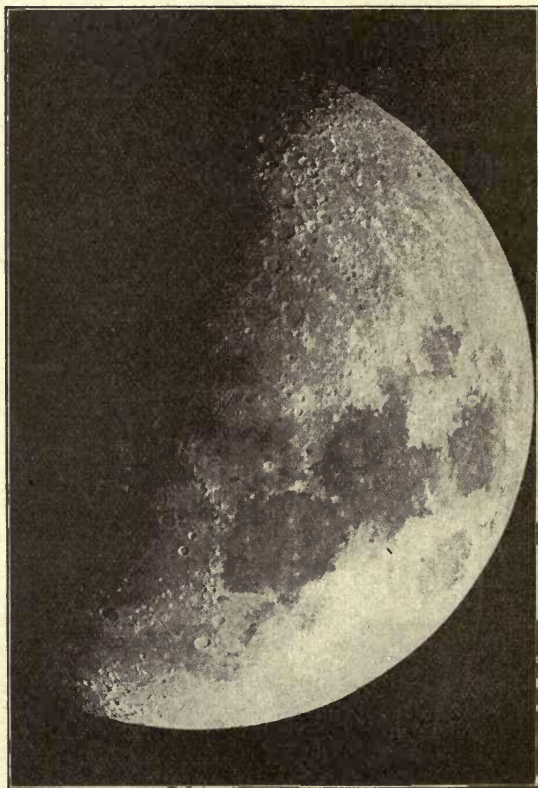

FIG. 9. — The Moon.
**The Moon.** — The earth has one satellite, the moon, which revolves around it once a month (27.32 days) and accompanies it through space in its journey around the sun. The diameter of the moon is about 2163 miles and its distance from the earth is about 240,000 miles. Although we see the moon as a very bright object at night for a part of every month, yet it has no light of its own but shines entirely by reflected light from the sun (Figure 9). It has a rough, barren, rocky surface and as far as is known has no air or water upon it. While the moon makes one journey around the earth, it rotates only once on its axis. Because the moon's period of rotation is the same as